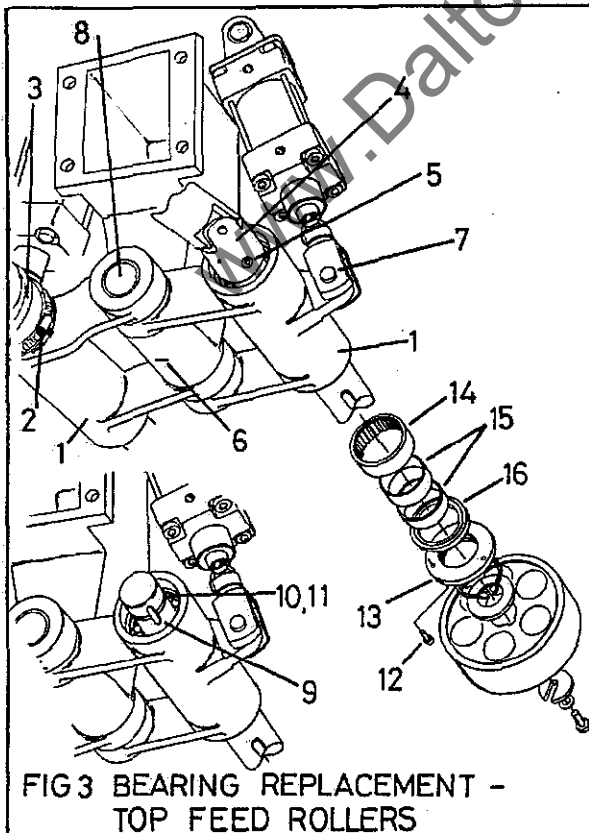

FIG 3 BEARING REPLACEMENT - TOP FEED ROLLERS
- 2) Place a straight edge (4) across the first infeed roller to the middle of the adjustable bedplate (5) before the First Bottom Head.
- 3) Adjust the second infeed roller (6) until it just touches the bottom of the straight edge.
**Top Infeed Roller Adjustments (Fig 3).**
Replacing Top Feed Roller Shaft Bearings (Fig 3 and 4)